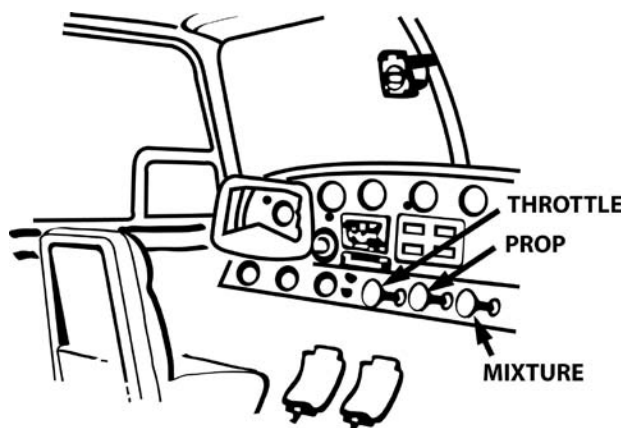

Figure 6
**The throttle controls engine power output.** In side-by-side seating aircraft it is centrally located on the lower portion of the instrument panel. In tandem seating aircraft the power quadrant is on the left wall panel. On some airplanes all the engine controls (throttle, mixture, and propeller) are installed on a separate unit called "engine control quadrant". By means of linkage the throttle is connected to the carburetor to regulate the amount of fuel-air mixture supplied to the engine, controlling the power developed. The power output is increased by pushing the throttle forward and decreased by pulling back. (Fig.6)